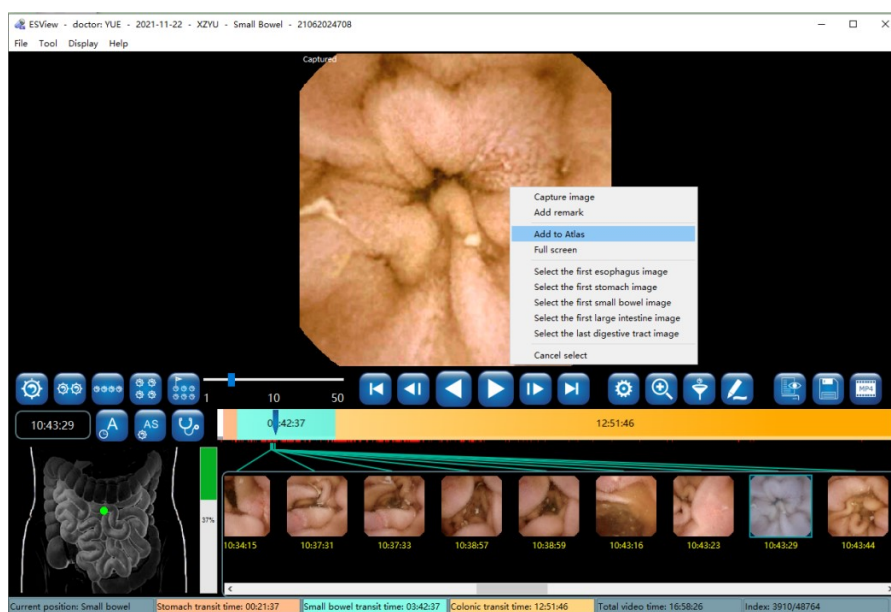

Figure 4-49: Add to Atlas
1. Move the mouse over the image, right click the mouse and select “Add to Atlas” in the pop-up menu (Figure 4-49) to access the add to atlas interface.